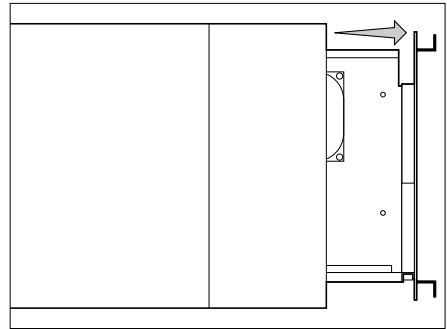

Figure 2
- ② Once released, slide out the system drawer (see Figure 2) until it reaches the stop.